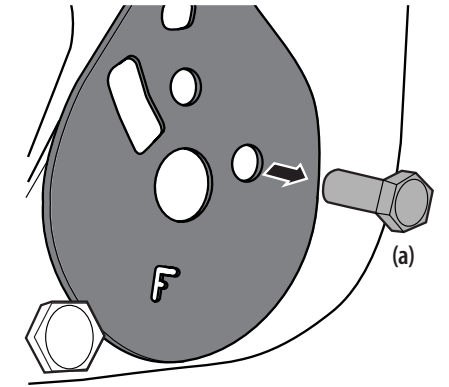

Figure 2-10
- Remove the screw (a) securing the recliner plate in the seat back position. See Figure 2-10.